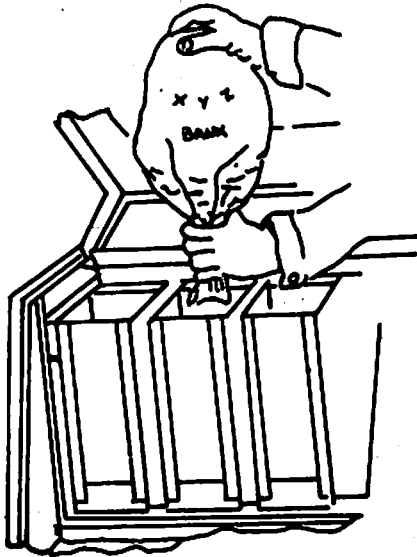

FIGURE 15. LOADING HOPPERS
3. Twist top of full coin bag one full twist. Grasp twisted top firmly with one hand and hold bottom of bag with other. Invert bag and insert twisted top into mouth of hopper. (See Figure 15).